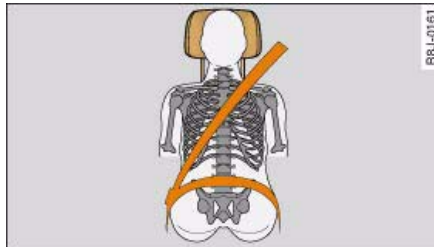
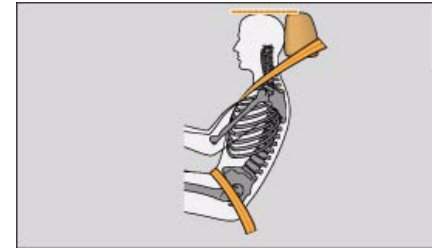

Fig. 201 Correctly adjusted head restraint (seen from the front)
Fig. 202 Correctly adjusted head restraint (seen from the side)
- Adjust the head restraint so that the top of the head restraint is level with the top of your head ⇒ *fig. 201* and ⇒ *fig. 202*.